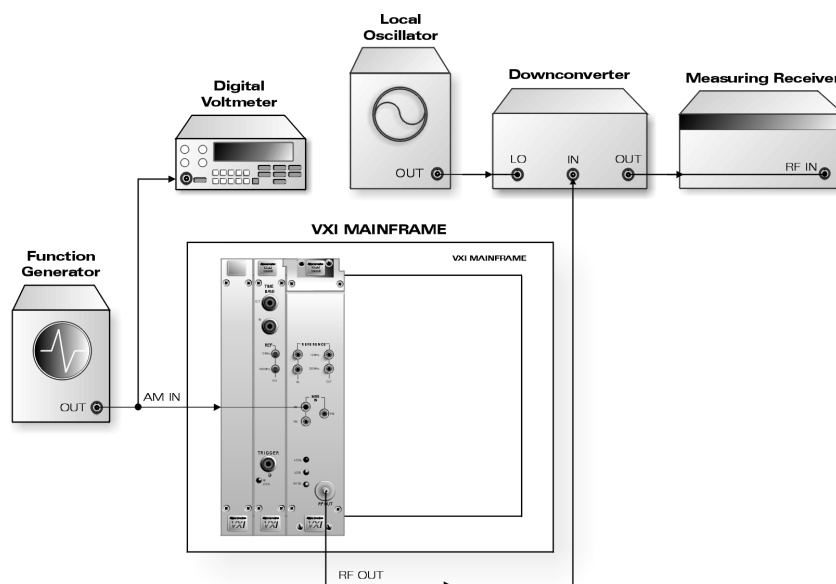

Figure 4-9: Amplitude Modulation Tests
1. Connect the equipment as shown in Figure 4-9. The following steps are to be performed at each frequency on the Test Data Sheet. In each case, set the local oscillator 130 MHz below the test frequency.